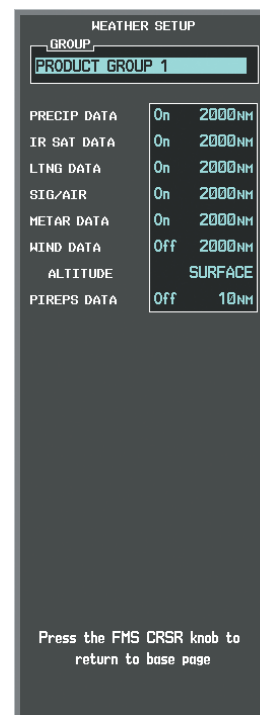

Figure 6-62 Weather Data Link (CNXT) Page Setup Menu
- 4) Turn the small **FMS** Knob to select 'PRODUCT GROUP 1' and press the **ENT** Key (Figure 6-62).